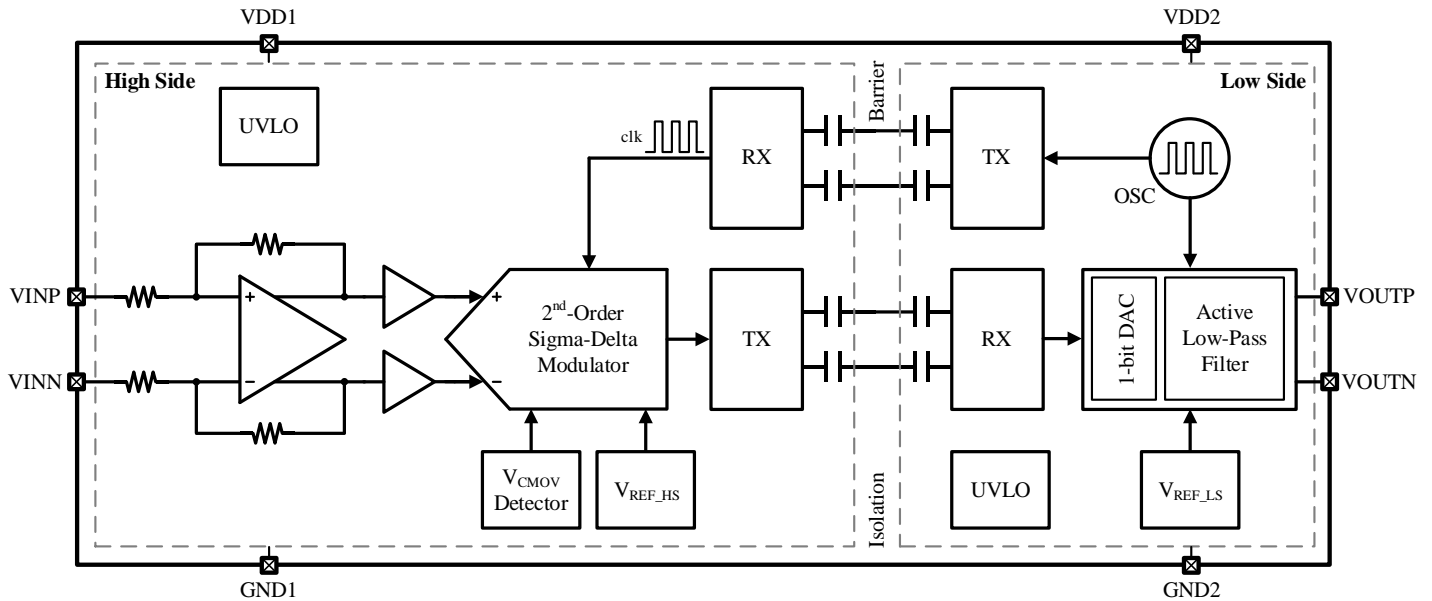

Figure 9-1 Functional Block Diagram of CA-IS1300B25G-Q1
The CA-IS1300B25G-Q1 devices are high-precision isolated amplifiers designed for shunt-resistor-based current sensing. The functional block diagram of this device is shown in Figure 9-1. At high side, the fully differential amplifier pre-amplifies the measuring voltage across a shunt resistor and then drives a 2nd-order Sigma-Delta ( $\Sigma\Delta$ ) modulator. This modulator converts the analog signal to a digital bitstream. For transmission across the SiO2-based isolation barrier, the digital stream is further modulated with a high-frequency carrier using a simple on-off keying (OOK) modulation scheme. The receiver (RX) recovers the modulated signal to the original digital bitstream at low side. After processed by a 1-bit digital-to-analog converter (DAC), the digital bitstream is sent to an active low-pass filter to produce the analog output. For synchronization of the whole chip, the clock is generated at low side and sent back to high side ensuring that all clocks come from one source.